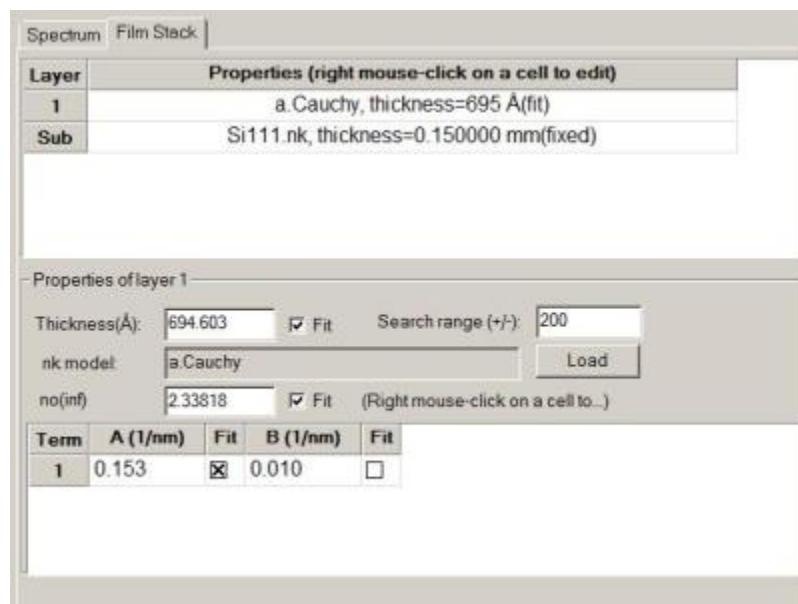

Fig. 123. Film stack with Cauchy model layer
3. Use the **Load** button to open the material selection dialog. Look for a file whose name is the *material* type with the extension **.Cauchy*. If it exists, select it. If it does not exist, select the file named “a.Cauchy.” The film properties window changes to look like Fig. 123.